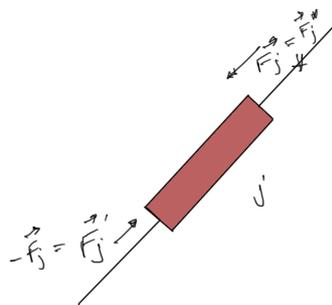

Figure 1.3: Strut model
- Strut forces. Under static conditions the total resulting force on the strut is zero, so  $\mathbf{F}'_j = -\mathbf{F}_j$ . For this problem it is redundant to label forces on both ends, so we mark the labeled end of the object with an asterisk as in fig. 1.3.